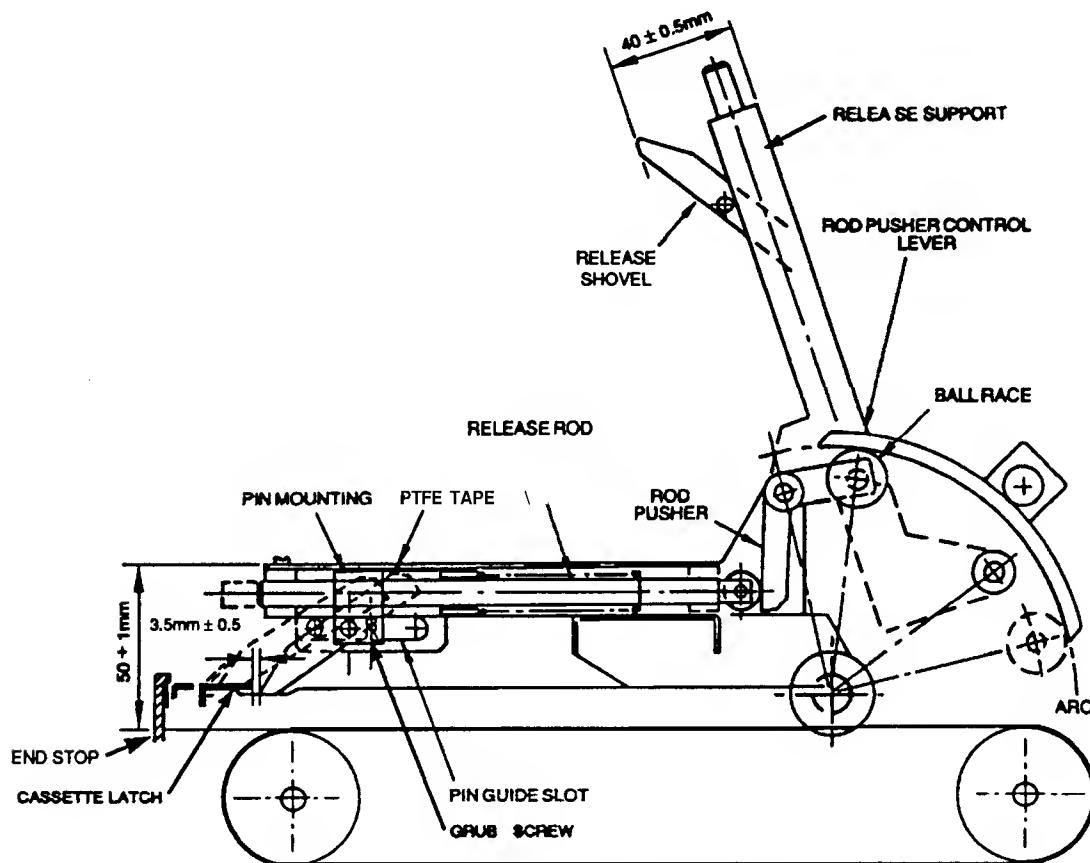

Figure 2
- 1 Using the JOG SWITCH (S 16 on PCB 106/A/B), cycle the CASSETTE OPENER MECHANISM until the RELEASE SUPPORT is at its lowest point relative to the CONVEYOR BELT. Set this height to be 50 mm +/- 1 mm (see fig 2 - page SM 11) by adjusting the PUSH ROD 30012190.
- 3 Place a CASSETTE in the MINILOADER and push it hard against the **ENDSTOP**. Using the JOG SWITCH cycle the MINILOADER to the point where the RELEASE ROD and SHOVEL are just about to move forward. Measure the gap between the CASSETTE LATCH and the RELEASE SHOVEL (see fig 2 - Page **SM 11**).